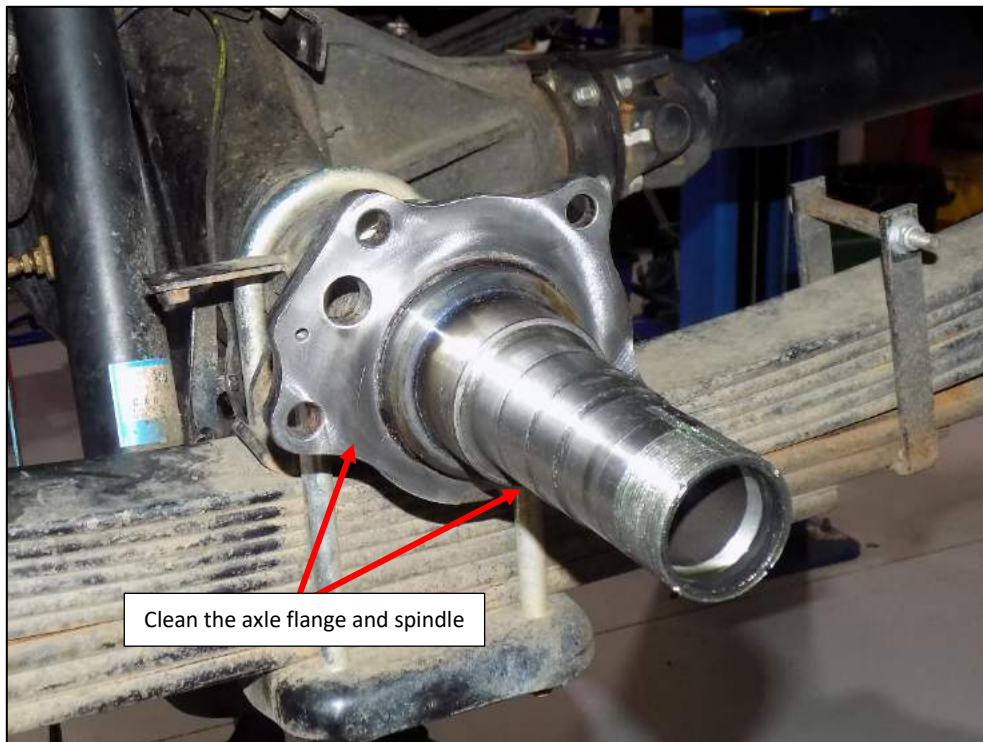

Figure 1
4. Clean the axle flange and spindle to remove any grease, dirt and gasket remains (Figure 1). If the flange is damaged or corroded it must be cleaned thoroughly with abrasive paper.